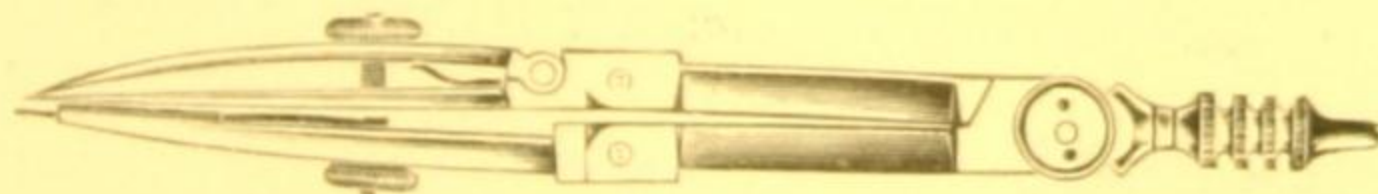

Fig. 177.
- SM 701.—**3¼-inch Bow Pen**, first grade English electrum, sector head, double knee joints, nut and bolt needle points..... Fig. 177      14 0